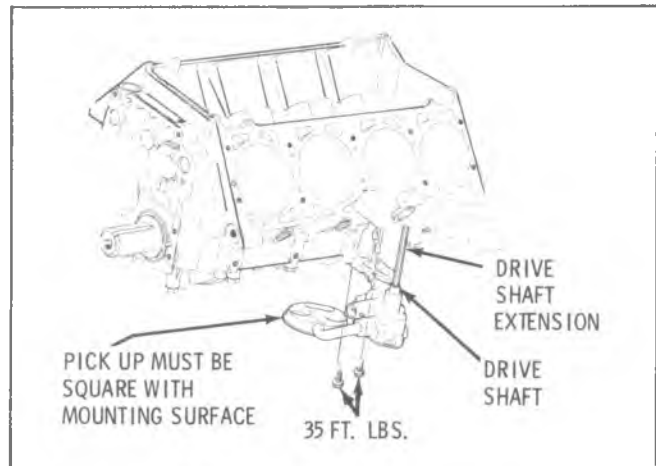

Fig. E-55—Oil Pump Installation
2. Position pump onto the rear main bearing cap and install attaching bolts. Torque bolts to 35 ft. lbs. (Fig. E-55)